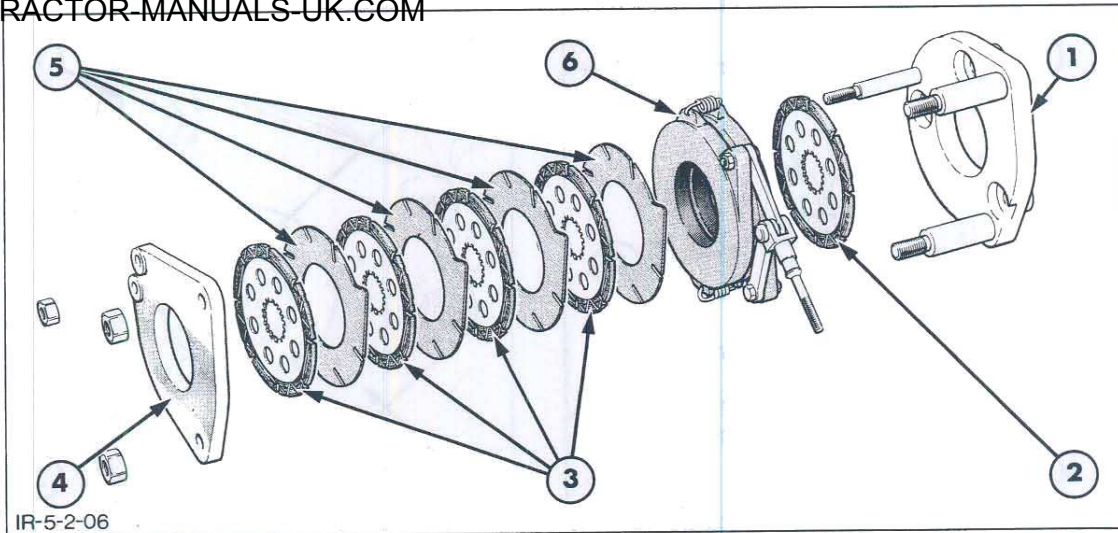

Figure 6
1. Examine the brake discs and discard any worn components. The rotating discs, Figure 6, friction material must not be worn flush with the bottom of the oil grooves. Discard any scored discs and check for flatness using a straight edge. Discard distorted plates.
3. Assemble the disc plates onto the drive pinion in the order shown in Figure 6. Ensure that the reaction lugs on the fixed discs engage with the two large diameter pins.